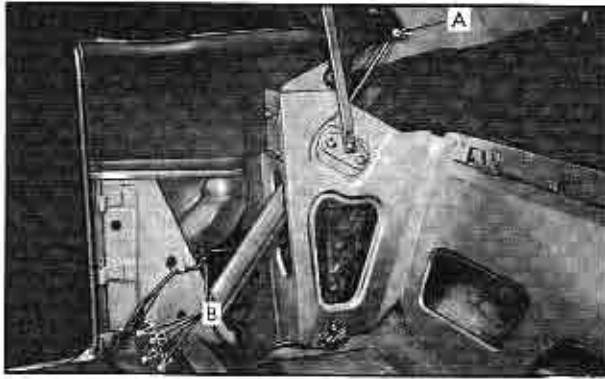

Fig. 3-88 Removal of Folding Top Lift Cylinder
4. Remove nut and bolt "A" connecting lift cylinder piston rod to top linkage. Fig. 3-88.